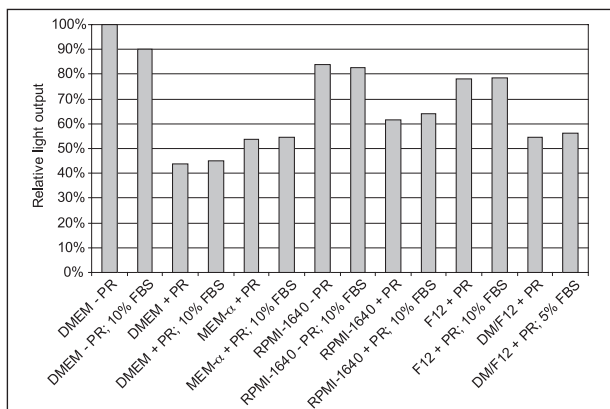
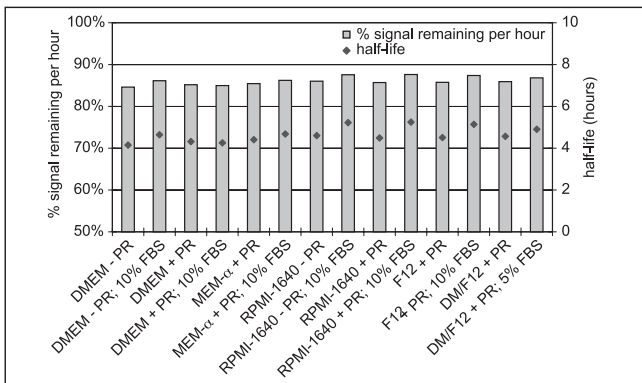

Figure 4. Relative light output in different media
Figure 5. Signal stability in different media expressed as a percentage of signal remaining per hour and half-life (hours)
To assess the influence of different culture media on luminescence light output, the following experiment was performed using commercially available basal media in the presence and absence of Fetal Bovine Serum (FBS) and Phenol Red (PR). 100 μL steadylite plus was added to 100 μL samples of the different media in a white 96-well OptiPlate, where each sample contained luciferase at a concentration of 2×10^{-9} gram per mL. After shaking the plate, the light output was measured using a TopCount NXT. Figure 4 illustrates the results of the relative luminescence after 15 minutes count delay. Figure 5 shows the results of the stability of the signal as a function of the culture media used.
The results from Figure 4 show that the light output is to some extent affected by FBS but that Phenol Red has a much larger impact on the light output reflecting the concentrations of Phenol Red in the basal media. Consequently the use of Phenol Red in culture media should be avoided to attain the highest signal. The stability of the luminescent signal is only somewhat dependent on the media as shown in Figure 5.
- Phenol Red, as well as other colored compounds, will chemically not interfere with the luciferin/luciferase reaction, but will quench some of the emitted light, resulting in lower assay signals (see Figure 4). For optimal light output, the culture medium can be substituted with **Dulbecco's PBS containing calcium and magnesium ions** prior to the addition of steadylite plus.